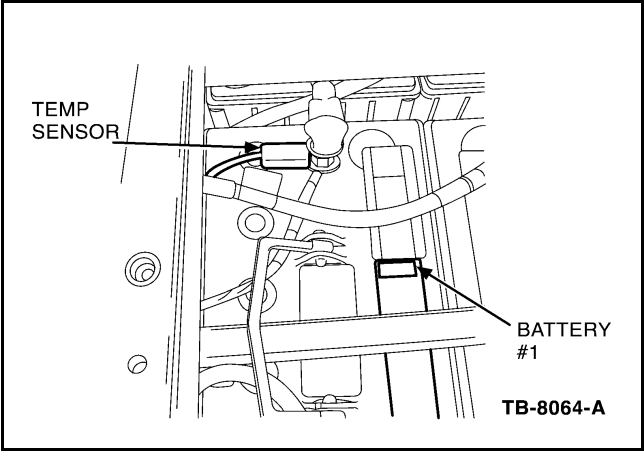

Figure 23 - Article 04-24-9
- 5. Connect the new charger battery temperature sensor to the negative side of battery number one (Figure 23).